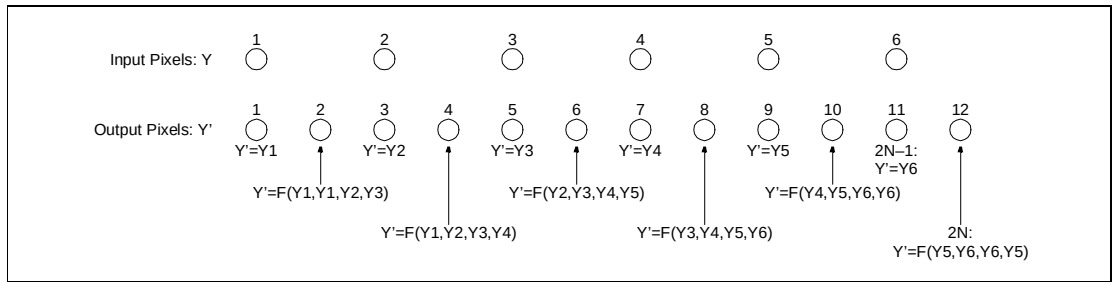

**Figure 7-28. Mirroring pixels in 2x upscaling.**
**Figure 7-28** shows an example of six pixels upsampled to 12 pixels.